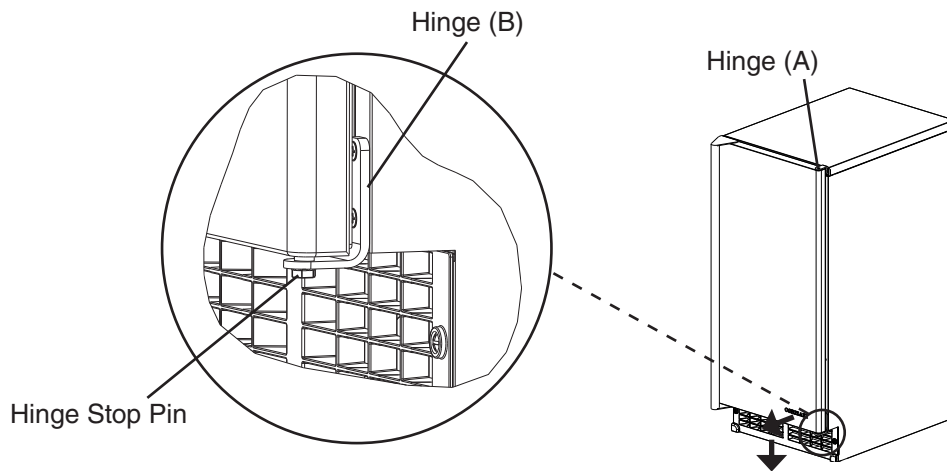

Fig. 1
- 1) While maintaining a hold on the door, remove the hinge stop pin from hinge (B). Pull out the bottom of the door slightly and gently remove the door from hinge (A). See Fig. 1.